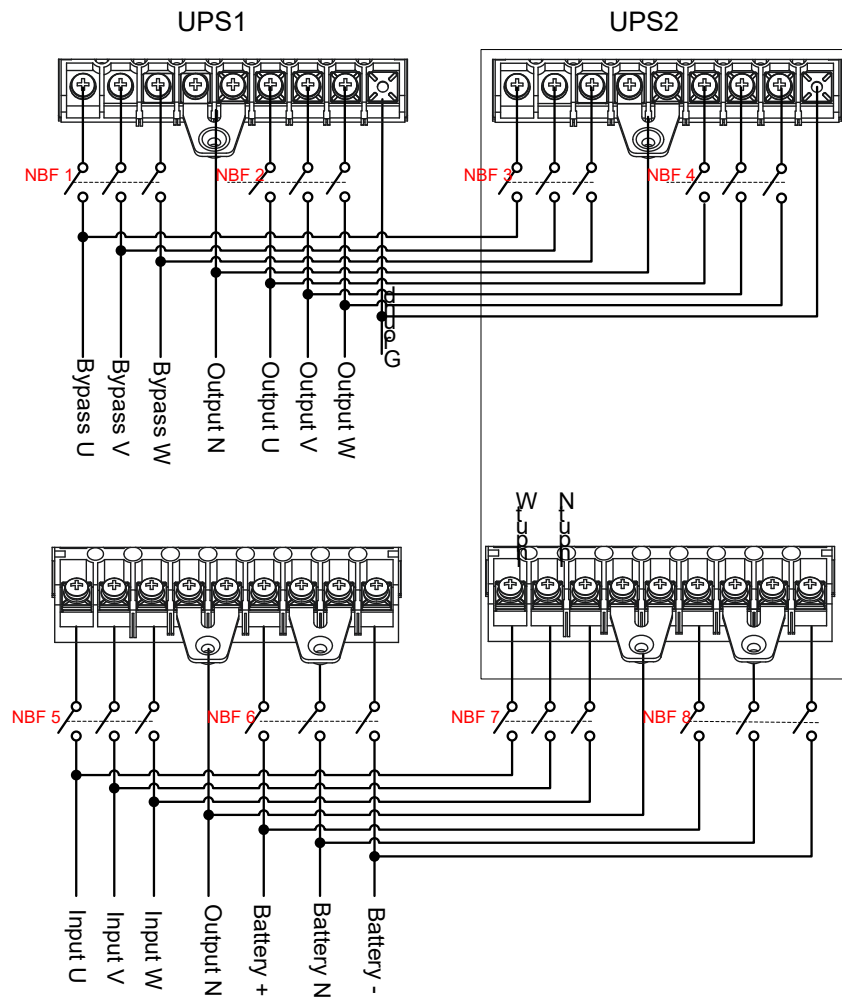
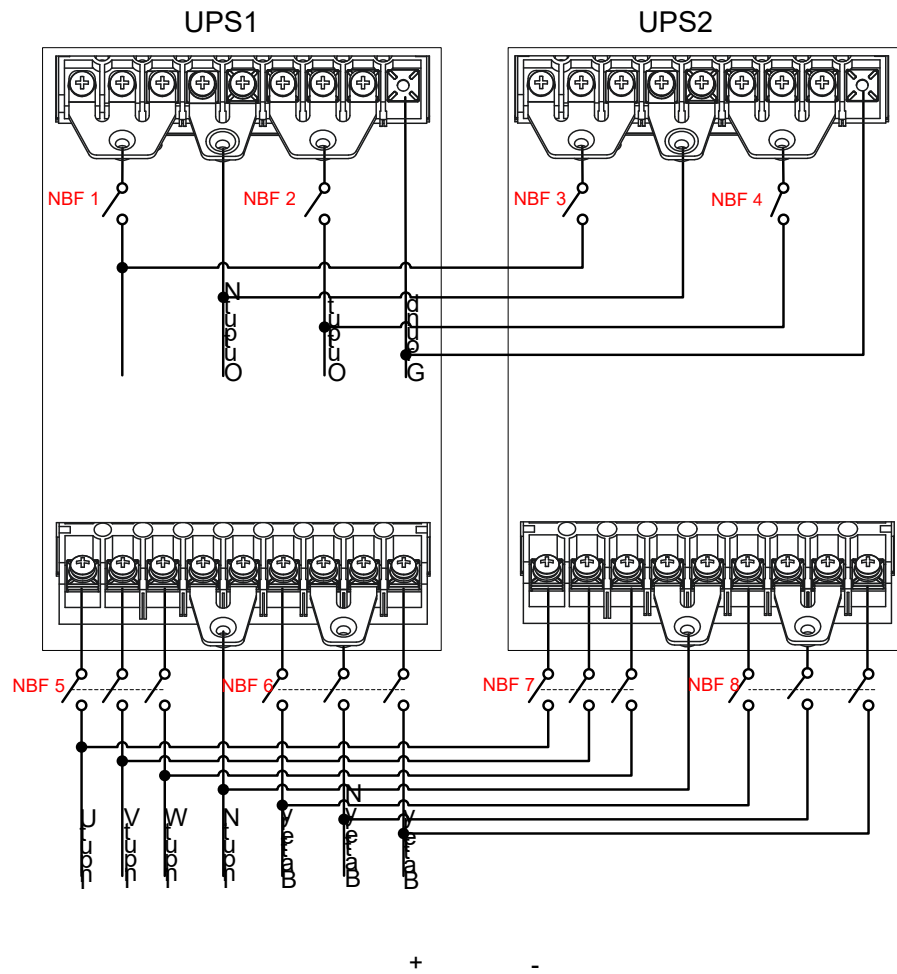

Figure3-29 Diagram of 33 mode parallel system wiring of (10kVA-20kVA) UPS
Figure3-30 Diagram of 31 mode parallel system wiring of (10kVA-20kVA) UPS
Step 2 Connect the wires of input, output, battery and grounding in parallel system on the basis of Figure3-29, Figure3-30, Figure3-31 or Figure3-32.